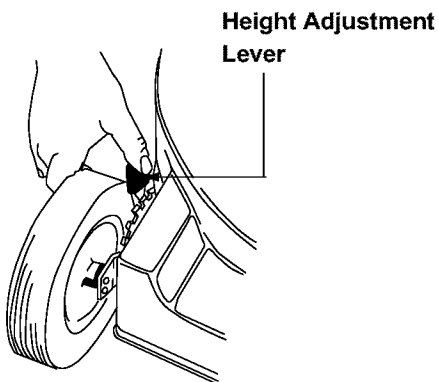

Figure 17
1. Simply depress the lever towards wheel and move it to any of the nine positions for the desired cutting height. See Figure 17.